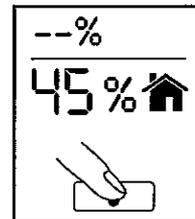

Fig. 24
- To turn the humidity function back on, simply press the humidistat button again (Fig. 24). The unit will automatically start back up in “continuous run.” Set the humidity level as desired or leave in “continuous run” mode.